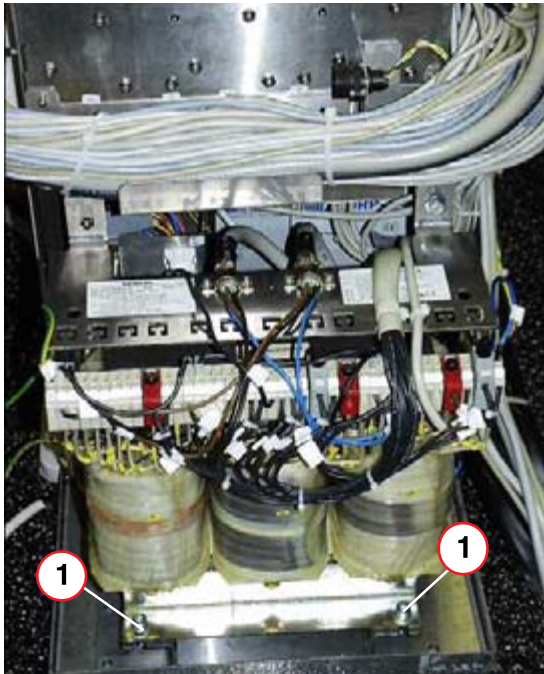

Fig. 21: Transformer T1
- Attach transformer T1 directly to transformer holder (1/Fig. 21 / p. 22).